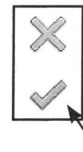

Fig. 05.10. Finish Edit Mode.
- Klik *Finish Edit Mode* (Fig. 05.10).